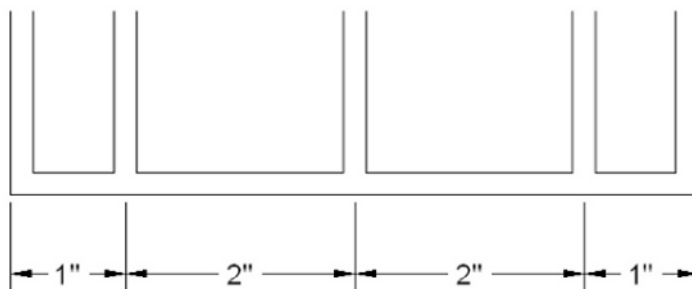

Figure 6.7 – Continuous dimensions
- **Continuous Dimensions** – These are a continuous *string* of dimensions (Figure 6.7).